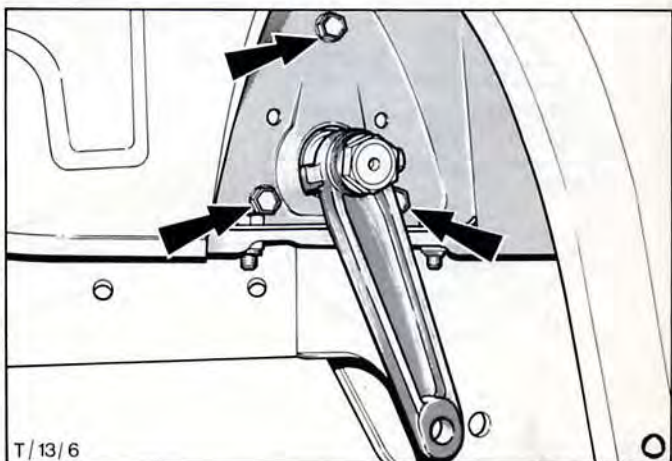

Fig.9. Remove steering gear to chassis lower mounting bolts.
8. Remove steering gear to chassis retaining bolts. Fig.9.